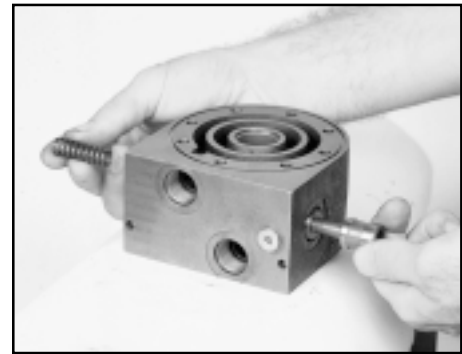

Figure D17
2. Remove the spool (11) and spring(13). SEE FIGURE D17.